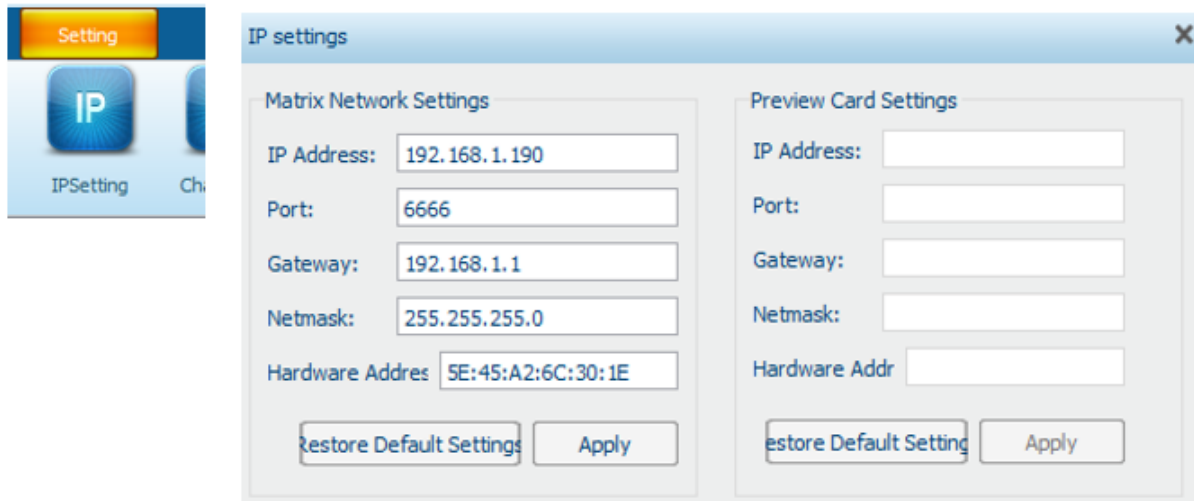

Figure 11: IP settings window
- To access the IP settings window firstly, click on the Setting tab at the top of the Pro Matrix software window and then click on the IPSetting button which will bring up the window as shown in figure 11